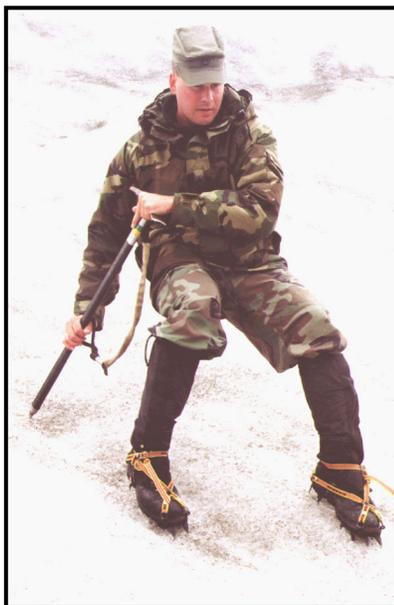

Figure 10-10. Flat-footing in the crab position.
d. **Descending with Crampons and Ice Ax.** Whenever possible, descend straight down the fall line. As the slope steepens, gradually turn sideways; on steeper slopes, bend at the waist and knees as if sitting, keeping the feet flat to engage all vertical crampon points and keep the weight over the feet as in descending rock slab (Figures 10-10 and 10-11, page 10-8). On steep terrain, assume a cross body or port arms position with the ax, and traverse. The crab position or front-pointing may also be used for descending. Regardless of the technique used, always ensure the points of the crampons are inserted